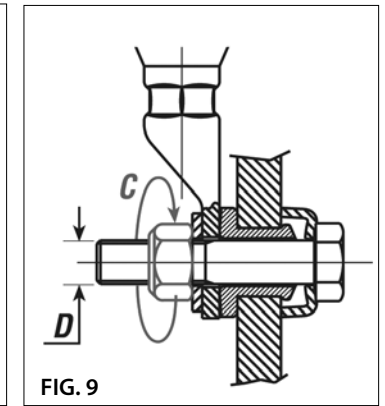

FIG. 9
3.3) Fit the flat washer and the self-locking nut. (Fig. 9).